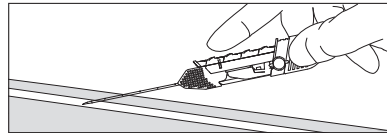

Figure 5
8. Carefully advance an additional 1 mm to ensure bevel is fully seated within vessel (refer to Figure 5).